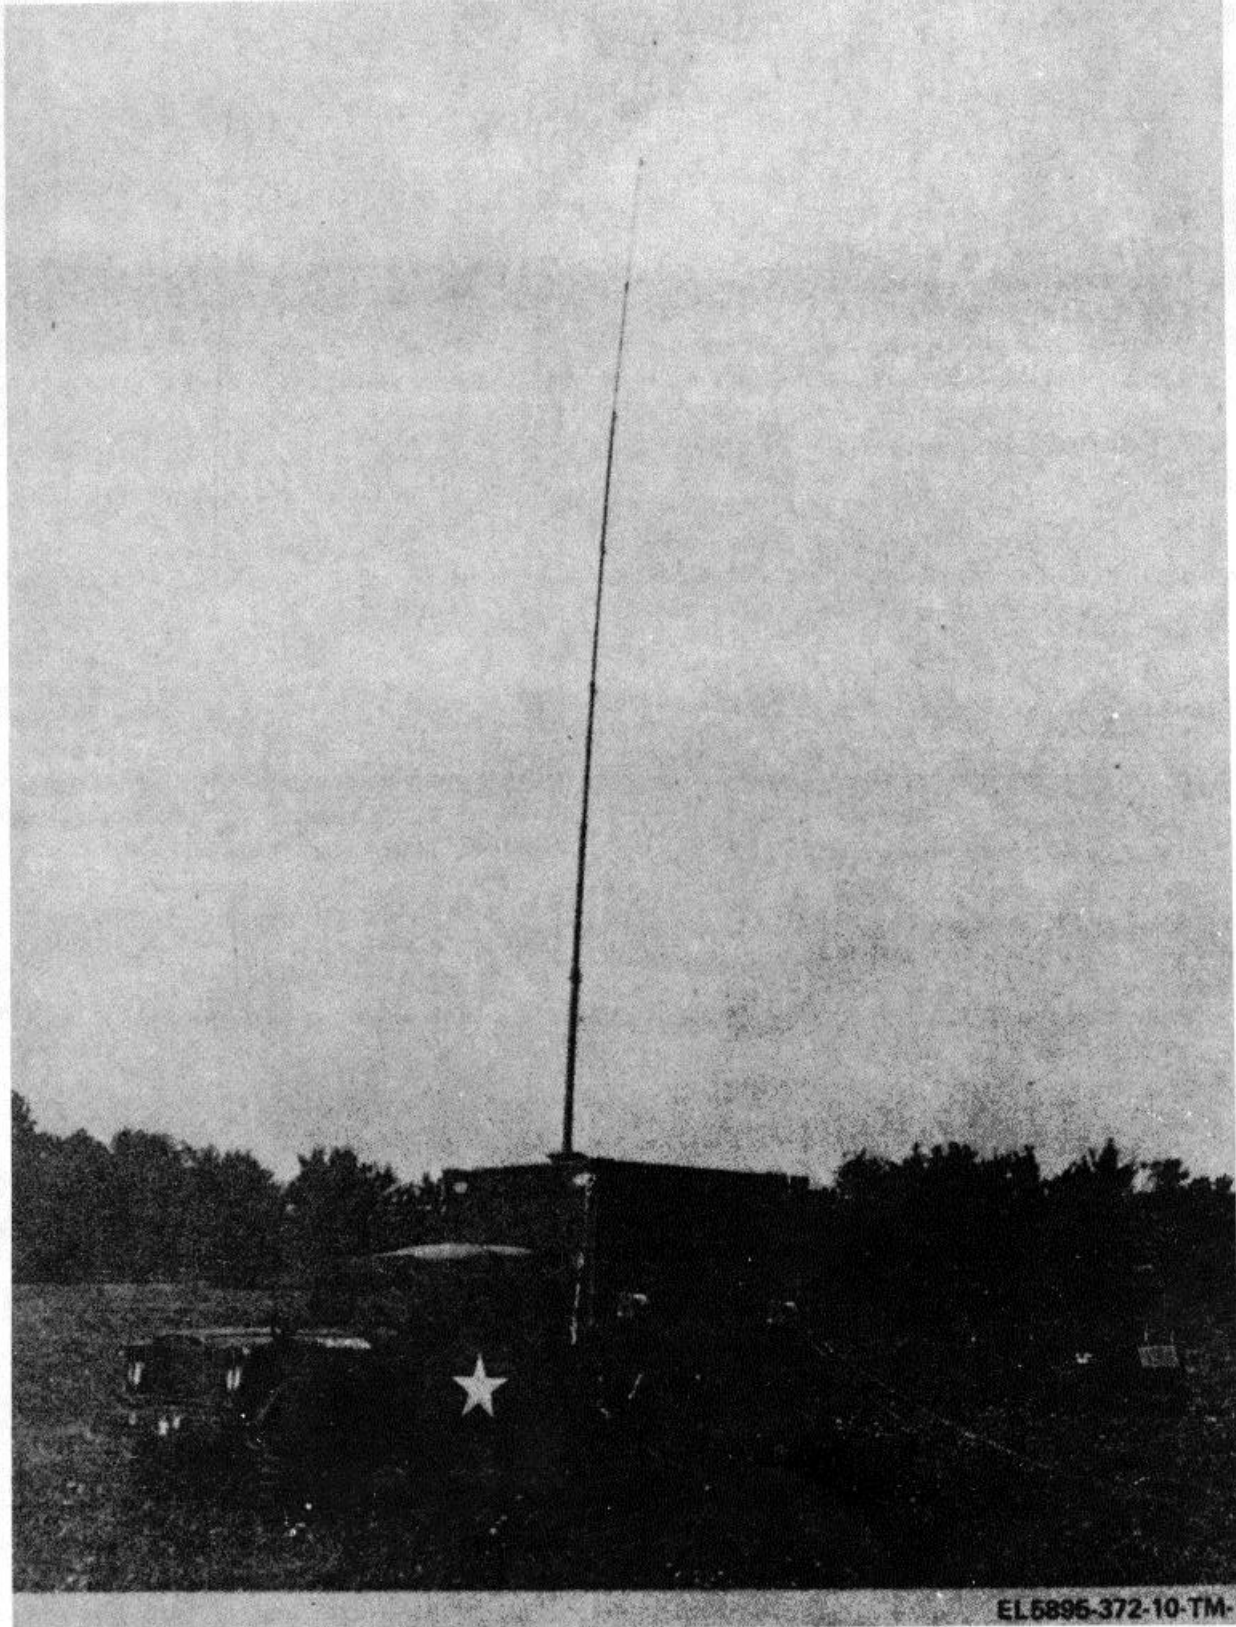

Figure 1-1. Countermeasures Set AN/TLQ-15.
a. This manual describes Countermeasures Set AN/TLQ-15 (fig. 1-1) and covers its operation and operator's maintenance. It includes operation under usual and unusual conditions, cleaning and inspection of the equipment and replacement of parts available for operator maintenance.